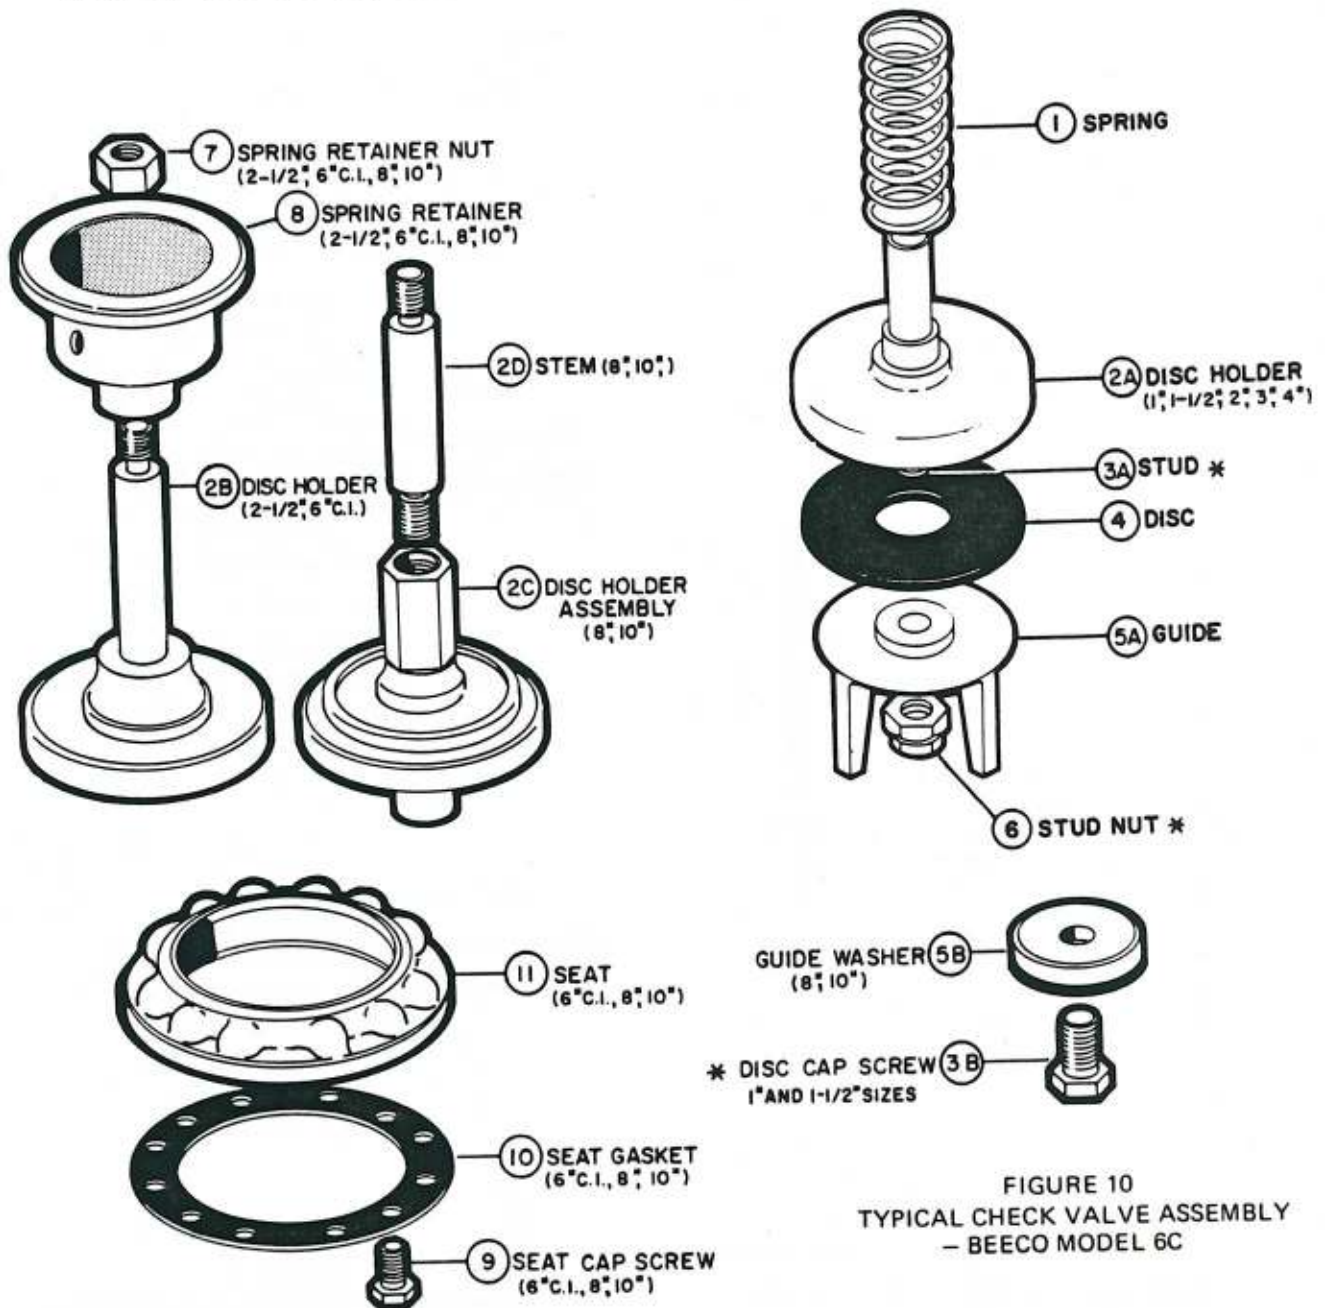

FIGURE 10
7. To replace seat gasket (6" CI, 8", 10" sizes), remove seat cap screws (10), seat gasket (11), and seat (12). Install new gasket and replace seat and cap screws.
9. Replace spring (1" size) (3).
B. REPLACEMENT OF CHECK VALVE RUBBER DISC (and Seat Gasket – 6" CI, 8", 10" sizes) (see Fig. 10).
2. Remove spring (1) (1", 1-1/2", 2", 3", 4" sizes and 6" bronze case model) and valve assembly, or valve assembly including spring (2-1/2", 6" CI, 8", 10" sizes).
3. Remove disc cap screw (3B) (1", 1-1/2" sizes) or stud nut (6). This releases the
4. Replace disc (4) and reassemble guide to disc holder (2A, 2B, or 2C).
5. To replace seat gasket (6" CI, 8", 10" sizes) remove seat cap screws (9), seat gasket (10), and seat (11). Install new gasket and replace seat and cap screws.
6. Place valve assembly in body. Replace spring (1) if separate from valve assembly.
(2-1/2", 6" CI, 8", 10" sizes) (See Fig. 10.)